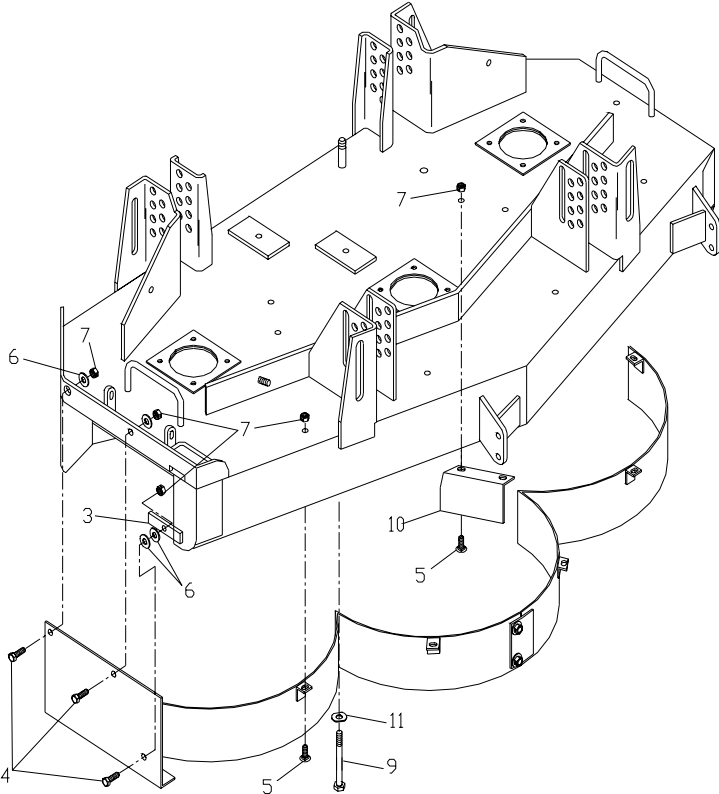

FIGURE 2
Step 3: With the discharge chute up and the two sections bolted together, place the baffle up under the deck and install the carriage bolts(item 5) thru the bottom. (see fig. 2)
Step 4: Using the two 5/16C x 4 1/2" bolt(item 9), flanged washer(item 11), and center lock nut, fasten the 'V' of the baffle to the deck.(see fig. 2) The flanged washer should be turned so the lip catches the front of the 'V' on the baffle.
Step 5: Using two of the 5/16C x 1" bolts(item 4) and washers(item 6) fasten the discharge cover plate to the deck. (see fig. 2)
Step 6: Install the clamp(item 3) as shown in fig. 2. Use a 5/16C x 1" bolt(item 4), two 5/16 washers(6), and a 5/16C nut(item 7). Make sure both washers(item 6) are between the clamp and the discharge cover and clamp overlaps onto the front corner of the deck as shown. (see fig. 2)
Step 7: Install the center deflectors(item 10) on both sides.(see fig. 2)
Step 8: Install the mulching blades(item 8). Rotate the blades by hand and check for clearance of all baffles and deflectors.